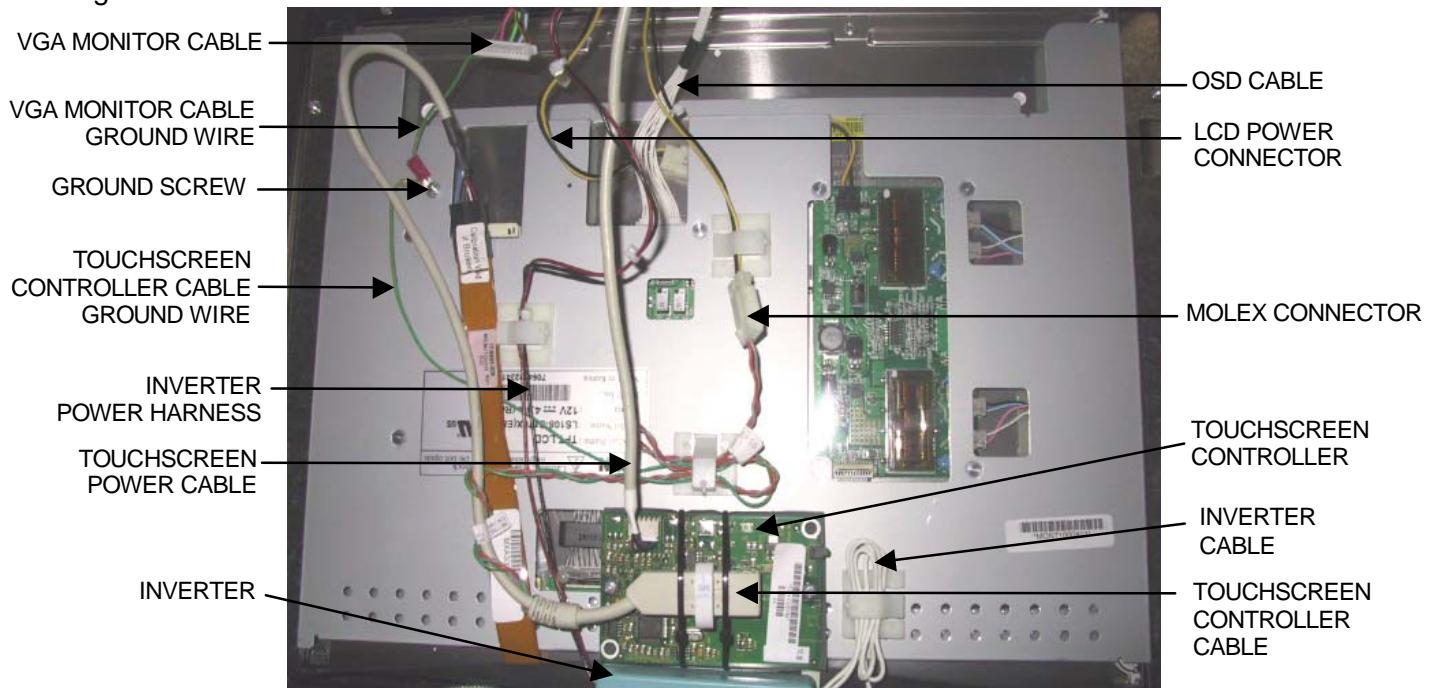

FIGURE 5 - REAR VIEW OF 17" MONITOR
7. Disconnect the VGA connector from the monitor. Remove the screw securing the VGA and touchscreen controller ground wires to the monitor (17"), or the nut securing the VGA and touchscreen controller ground wires to the ground screw on the back of the monitor (19" & Widescreen). *Note: On the Aurora Widescreen this nut may secure only the VGA ground wire.* Disconnect the 14-pin OSD cable (white wires) and the LCD power connector (yellow & black wires) from the monitor. Refer to Figure 5 for 17" games, and Figure 6 for 19" and Widescreen games.
8. Disconnect the touchscreen power cable from the touchscreen controller, then disconnect the Molex connector, identified by the orange and gray wires (this does not exist on Aurora Widescreen systems). Refer to Figure 5 for 17" games, Figure 6 for 19" and Widescreen games.
9. Release harnesses from clamps; this may include the inverter cable, the inverter power harness, the Molex harness, the touchscreen controller cable, the touchscreen controller cable ground wire, the harness connecting the Molex connector to the power supply, and/or the touchscreen ribbon cable. Refer to Figure 5 for 17" games, and Figure 6 for 19" and Widescreen games.
If you are replacing the touchscreen: Remove the touchscreen controller cable from the touchscreen controller (see Figure 5).